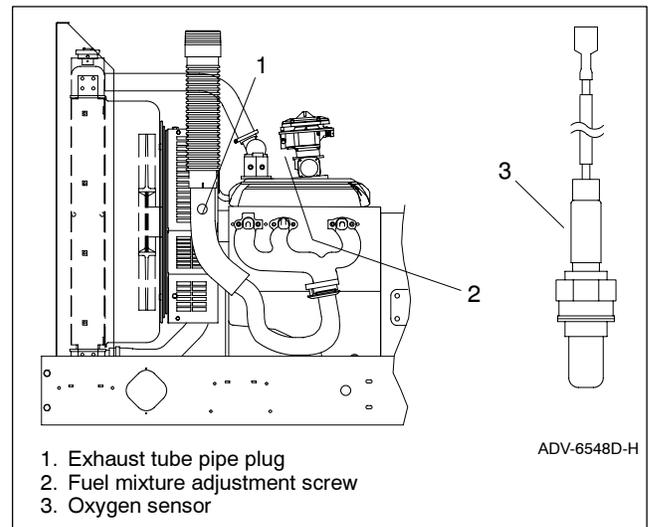

Figure 2 Oxygen Sensor Mounting Location, Typical (30 kW model shown)
- 2.1 Remove the oxygen sensor pipe plug from the exhaust pipe. See Figure 2 for location.